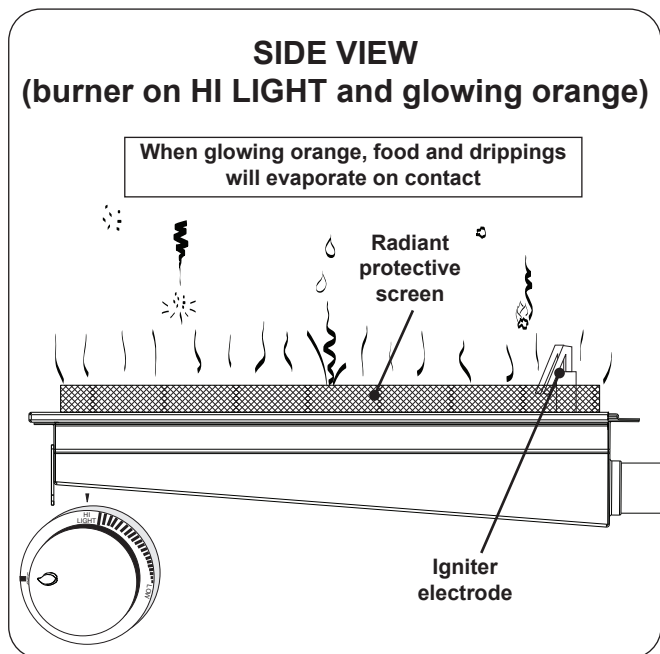

Fig. 31-2 Searing station - DURING USE
- When not in use, **always** close the searing station lid. This protects the burner from drippings (from other cooking), water, airborne particles, and foreign objects (Fig. 31-2).
- Do not strike or scrape the ceramic portion of the burner as it may chip, crack, or break (Fig. 31-2).